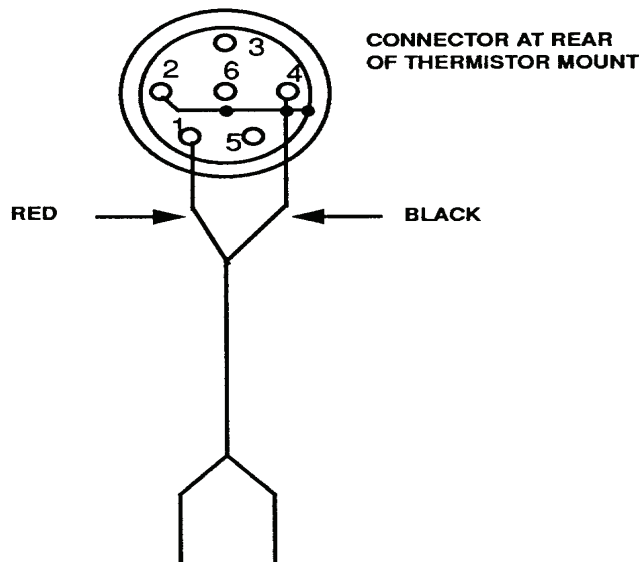

Figure 1. Power measurement system adapter/cable fabrication.
CABLE ADAPTER	Hewlett-Packard, Model 11528A (or fabricate according to figure 1)
a. If Hewlett-Packard, Model 11528A adapter/cable is not available, fabricate adapter/cable according to figure 1.